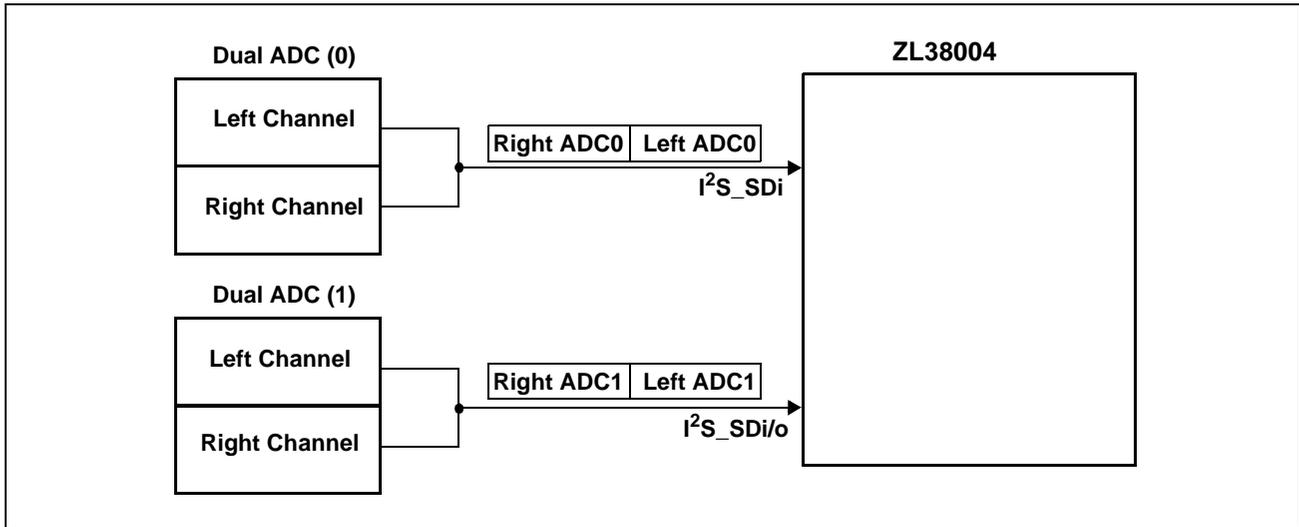
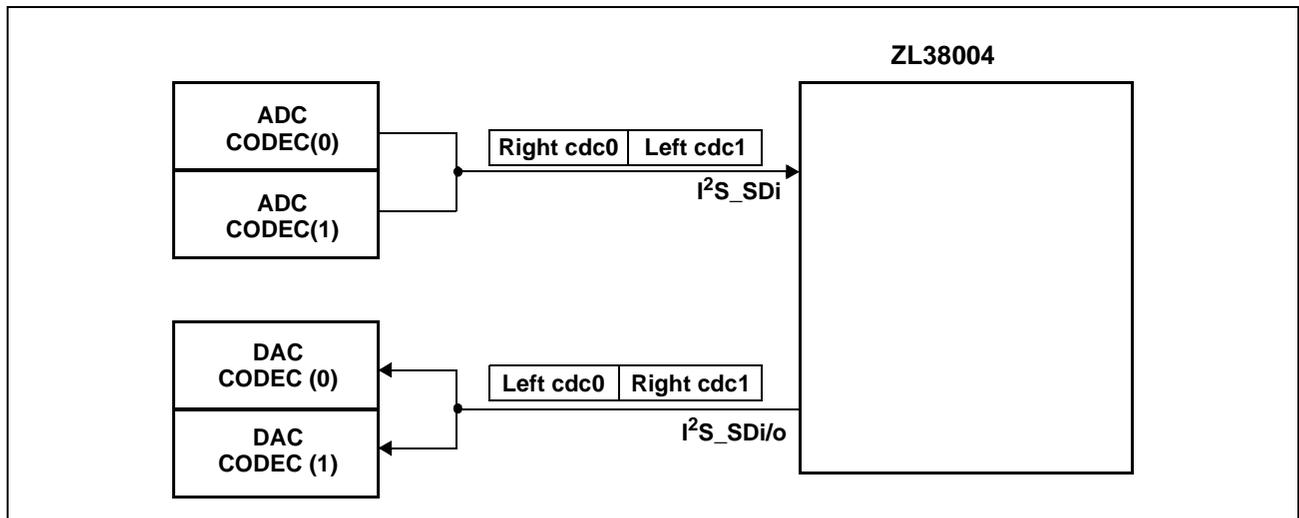

Figure 17 - Dual Analog-to-Digital Converter Configuration
Figure 18 - Dual CODEC Configuration
The I²S interface can support two dual channel Analog-to-Digital Converters (Figure 17) or one dual channel CODEC (Figure 18). In Figure 17 pin I²S_SDi/o is configured as an input (control bit I²SSDi/oSel = 0) so that the four 16-bit channel processing capacity of the DSP is spread across the two input channels from Dual ADC (0) plus the two input channels from Dual ADC (1). See Firmware Manual for I²S port setup.
In Figure 18 pin I²S_SDi/o is configured as an output (control bit I²SSDi/oSel = 1) so that the four 16-bit channel processing capacity of the DSP is spread across the two input channels from the ADCs of CODEC(0) and CODEC(1), as well as the two output channels from the ADCs of CODEC(0) and CODEC(1). See Firmware Manual for I²S port setup.